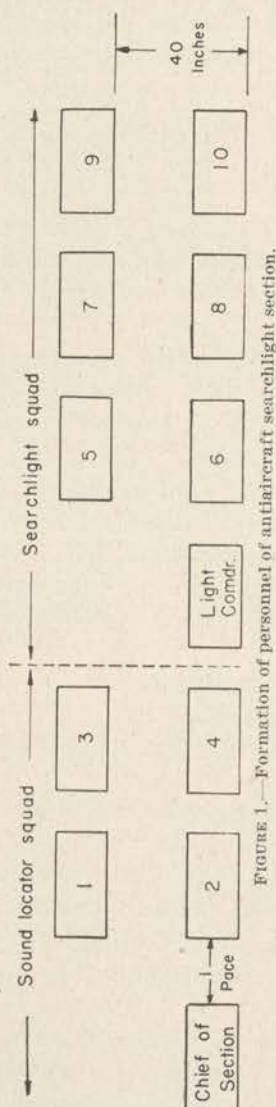

FIGURE 1.—Formation of personnel of antiaircraft searchlight section.
- (1) The sound locator squad.
- (2) The searchlight squad.
*Q.* Of what personnel does the sound locator squad consist? *A.* See figure 1.
*Q.* Of what personnel does the searchlight squad consist?—*A.* See figure 1.